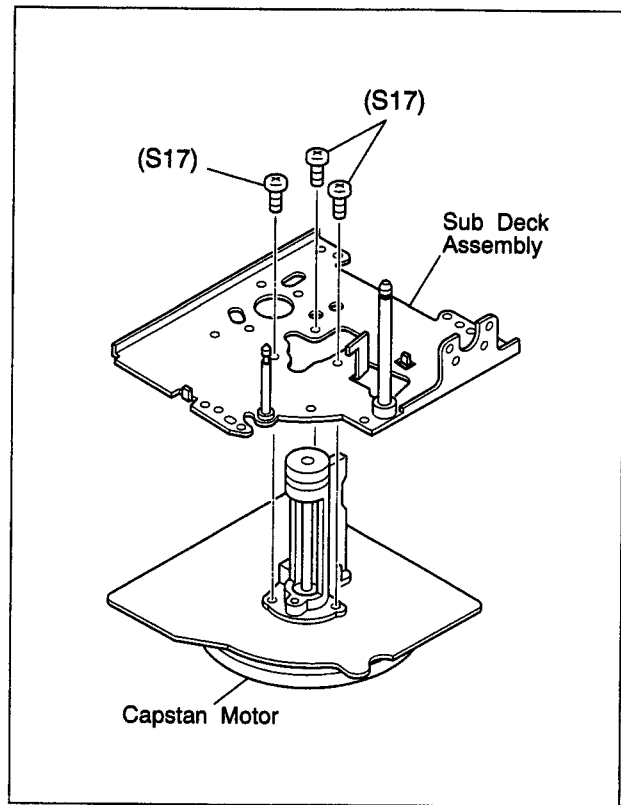

Fig.2-5-9
- (4) Take out 3 screws (S17) and remove the capstan motor from the sub deck assembly as indicated in Fig.2-5-9.